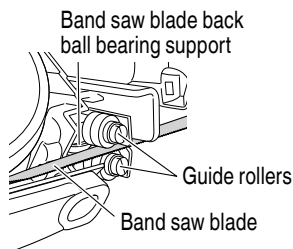

Fig. 25
3. Inspection of band saw blade back ball bearing supports (Fig. 25)